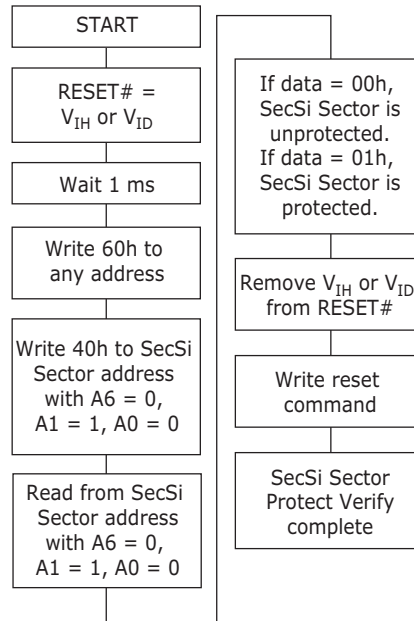

Figure 3. SecSi Sector Protect Verify
- To verify the protect/unprotect status of the SecSi Sector, follow the algorithm shown in Figure 3, on page 26.